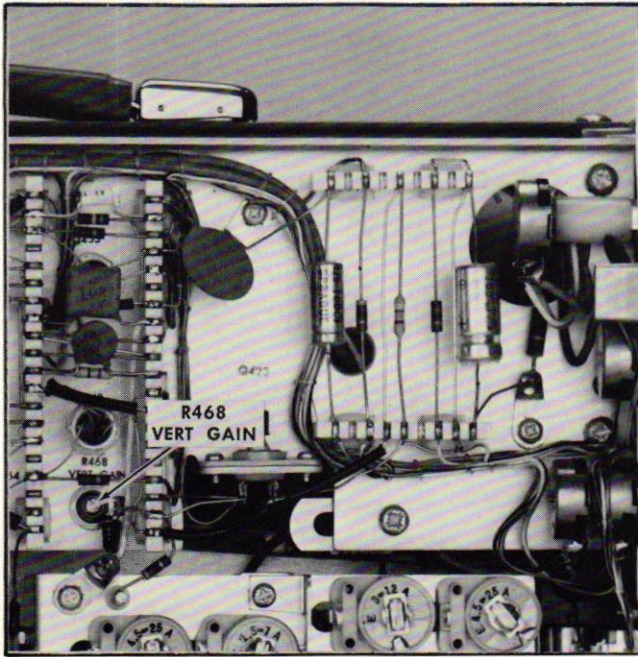

Fig. 5-9. Location of vertical gain adjustment (left side).
f. ADJUST—Vert Gain adjustment R348 (see Fig. 5-9) for exactly five divisions of deflection.